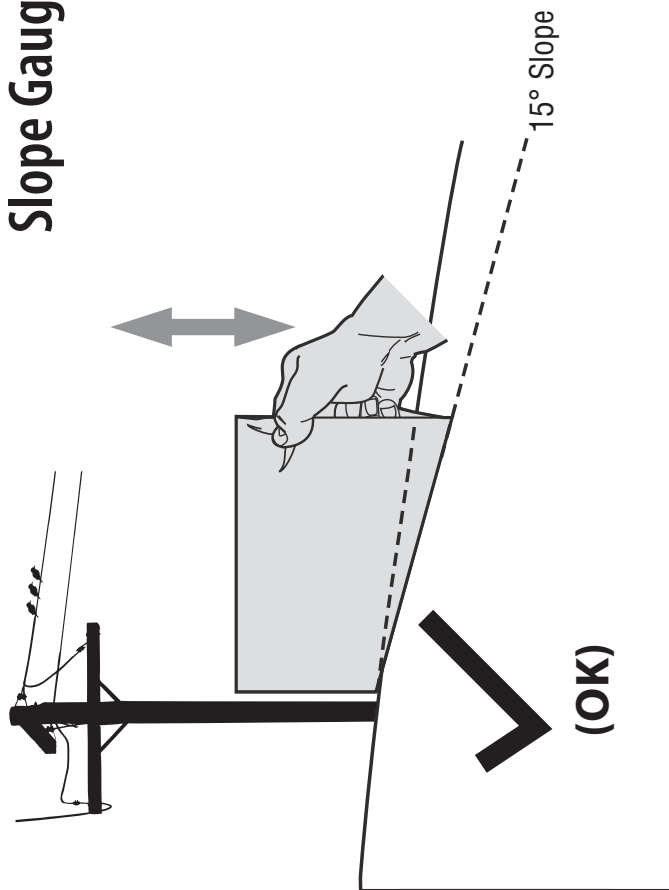
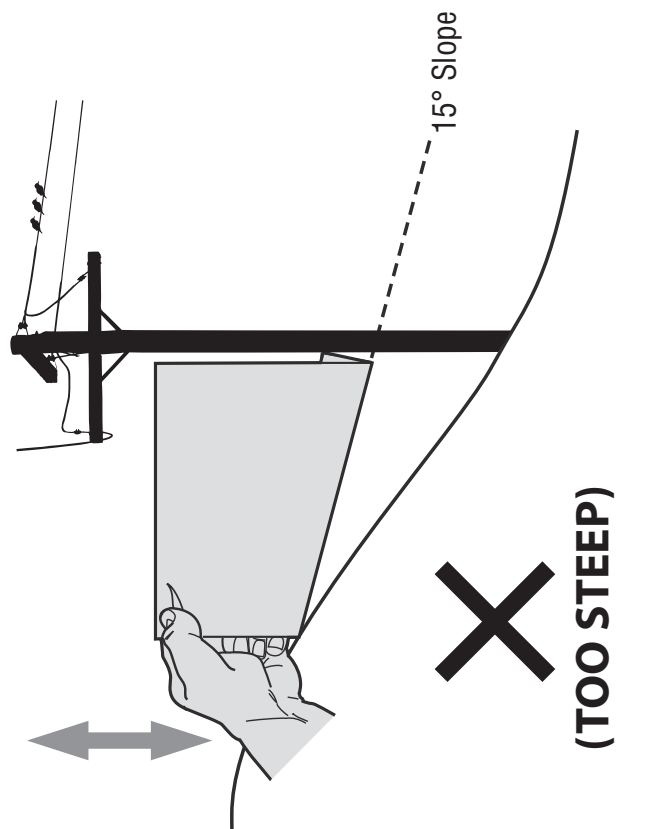

Figure 1
Figure 2
3. Align either side of the slope gauge with the object (See Figure 1 and Figure 2).
4. Adjust gauge up or down until the left corner touches the slope (See Figure 1 and Figure 2).
5. If there is a gap below the gauge, the slope is too steep for safe operation (See Figure 2 above).